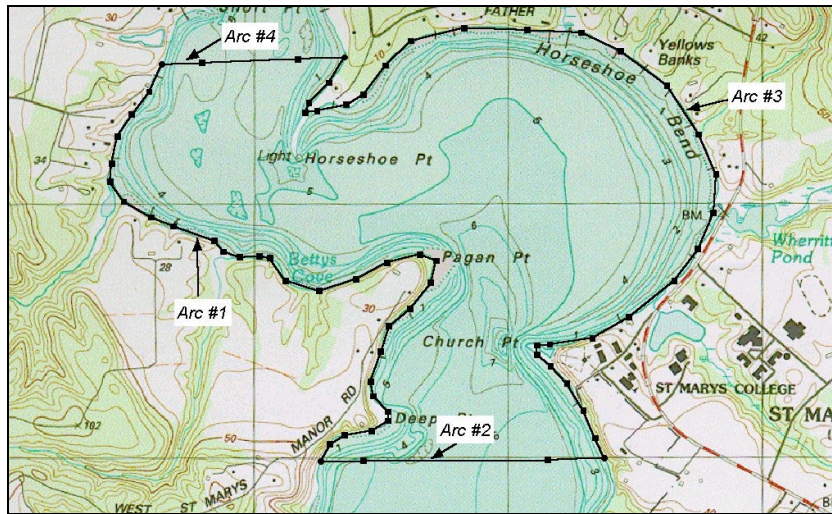

Figure 2-5 All feature arcs have been created.
- In the same manner just described, create the remaining three arcs, as shown in Figure 2-5. Remember to double-click the last point on each arc so that three separate arcs are created.